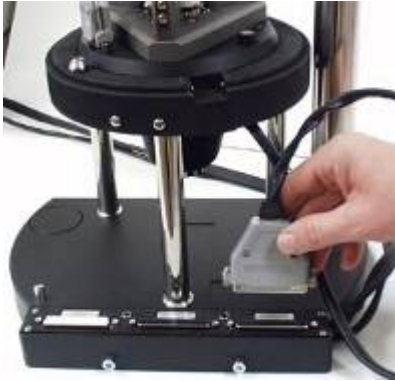

Fig. 2-1
1. The approach unit cable is connected to the **SCANNER** socket on the connecting unit (Fig. 2-1);
1. The approach unit cable is connected to the «SCANNER» socket on the connecting unit (Fig. 2-1);